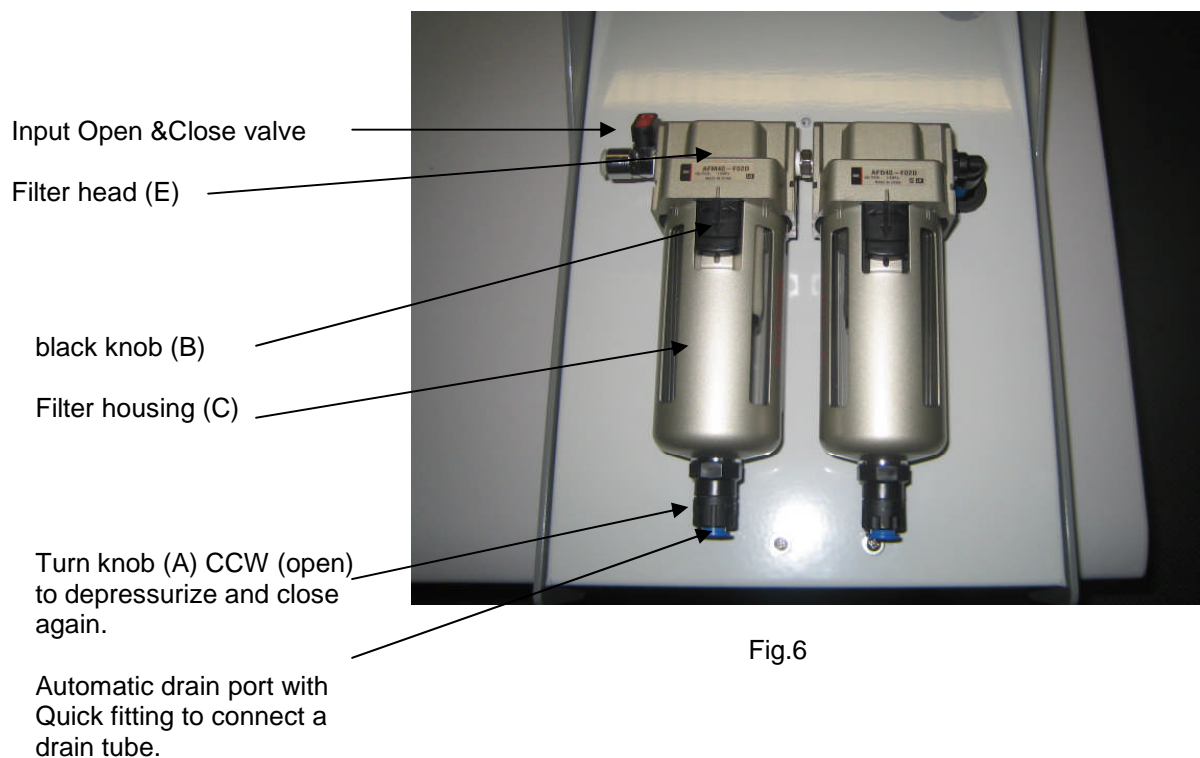
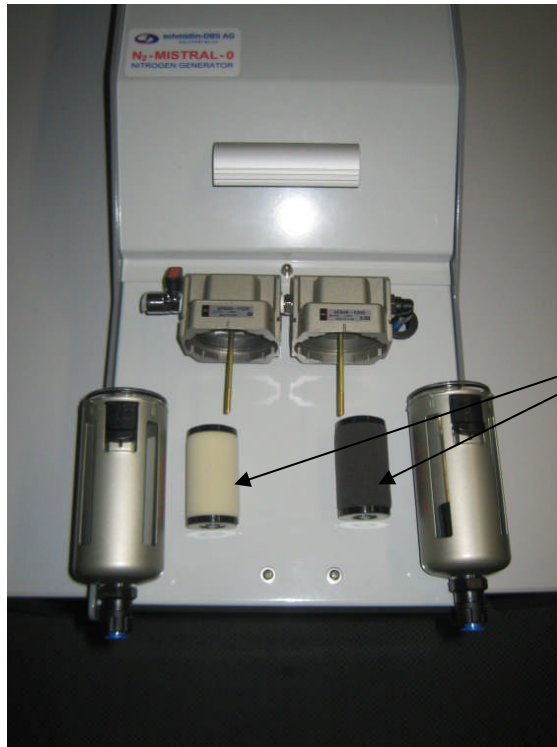

Fig.6
Fig.7
3. if necessary turn knob (A) CCW (Fig.6) to make sure the filter is depressurized. Than close again.
4. Turn the filter housing (C) counter clockwise -while pushing knob (B) down- until the markings I & II line up, than pull the filter housing (C) from the filter head (E).
5. Unscrew the old filter element (F) - Fig.7
7. Place a new filter element (F).